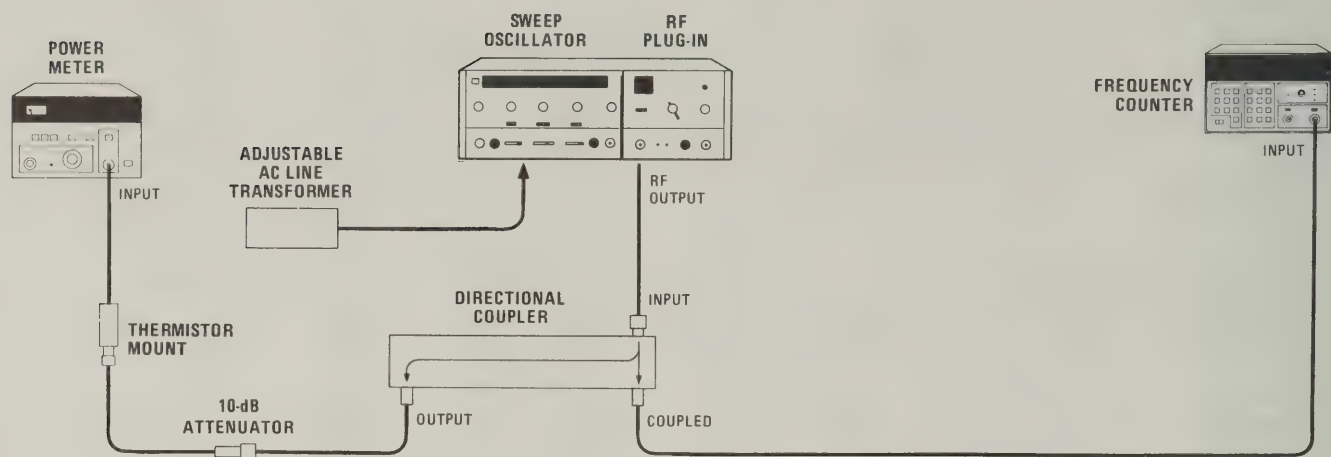

Figure 4-3. Frequency Stability Test Setup
Equipment listed is for three test setups (Figures 4-3, 4-4, and 4-5).
- a. Connect equipment as shown in Figure 4-3 and set 8620C LINE switch to ON. Set adjustable line transformer to 115 Vac. Allow 30 minutes warm-up time.